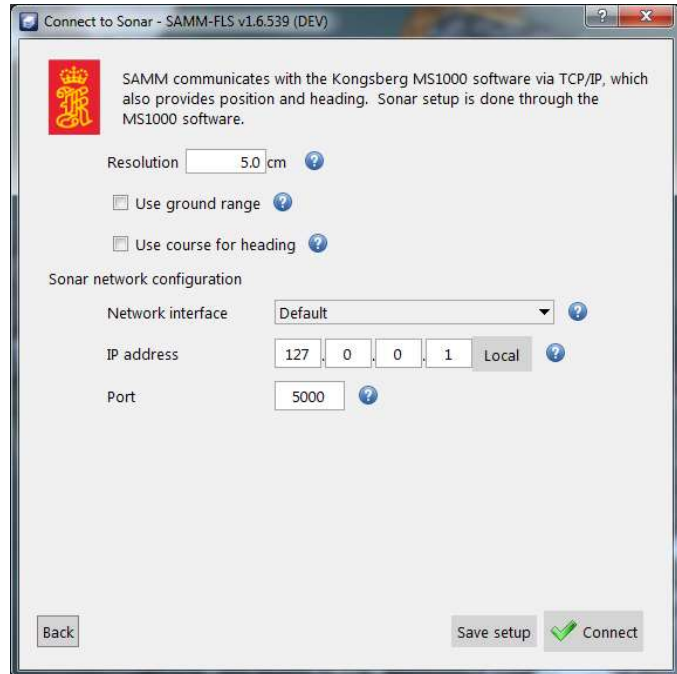

Figure 41. MS1000 Interfacing
6. In the MS1000 interface window (Figure 41), set processing parameters as necessary.